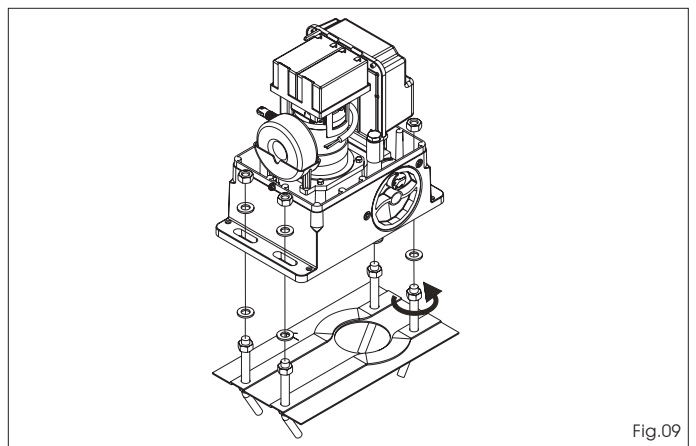

Fig.09
2- Position the operator on the foundation plate, using the supplied washers and nuts as shown in Fig. 09. During this operation, route the cables through the appropriate openings in the motor body (See Fig.01 ref.9). If necessary, the two holes can be joined using a hammer to obtain a wider space.